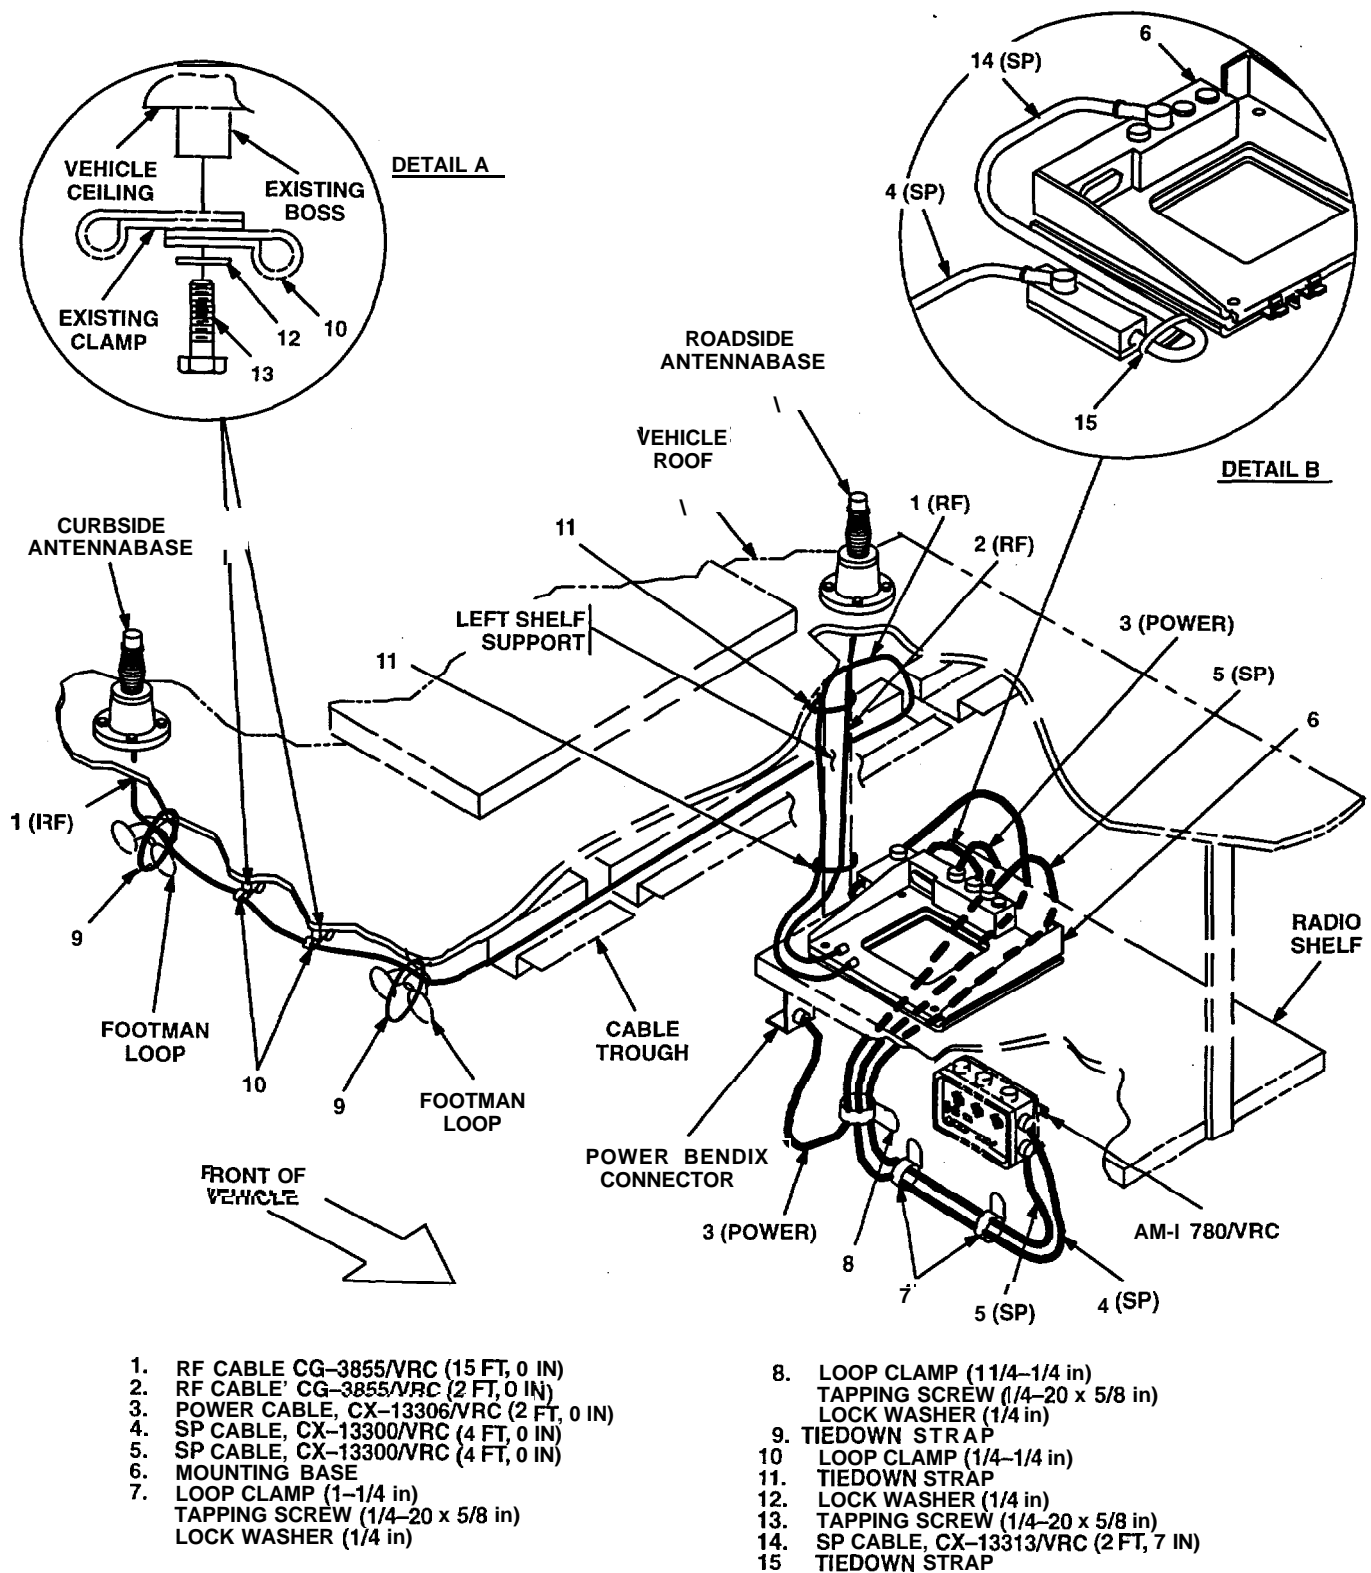

Figure 5-5. Cable Installation: RF, Power and SP Cabling
a. RF cable (1) connector P1.	Connect and secure to curbside antenna base connector J1. See figure 5-5.
b. RF cable (1).	Route across ceiling through cable trough to roadside wall.
d. Two tiedown straps (9).	Install loosely around RF cable (1) and footman loops. See figure 5-5 for location(s).
e. RF cable (2) connector P1.	Connect and secure to roadside antenna base connector J1. See figure 5-5.
g. Connector P2 of RF cables (1, 2).	Position on top of mounting base (6).
h. Two tiedown straps (11).	Install loosely around RF cables (1, 2) and left shelf support. See figure 5-5 for location(s).
i. SP cable (14) connector P2	Connect and secure to mounting base (6) connector J3. See figure 5-5, detail B.
j. SP cable (14).	Position on left side of mounting base (6); then secure with tiedown strap (15).
k. SP cable (4) connector P2	Connect and secure to SP cable (14) connector P1.
l. SP cable (5) connector P2.	Connect and secure to mounting base (6) connector J4. See figure 5-5.
m. Power cable (3) connector P2.	Position on top of mounting base (6).
n. SP cables (4, 5) and power cable (3).	Route down wall behind radio shelf.
o. Power cable (3) connector P1.	Connect and secure to power Bendix connector.
p. SP cable (4) connector P1.	Connect and secure to AM-I 780/VRC connector J501.
q. SP cable (5) connector P1.	Connect and secure to AM-I 780/VRC connector J503.
t. Power cable (3) connector P2.	Connect and secure to mounting base (6) connector J1. See figure 5-5.